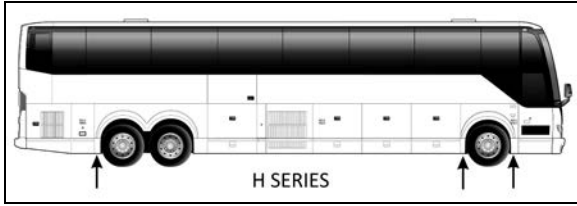

FIGURE 5: JACKING POINTS ON FRAME 18524
1. Raise vehicle by its jacking points on the body (Figure 5 or see Section 18, "Body" under heading "Vehicle Jacking Points"). Place jack stands under frame. Remove drive axle wheels (if required, refer to Section 13, "Wheels, Hubs And Tires").